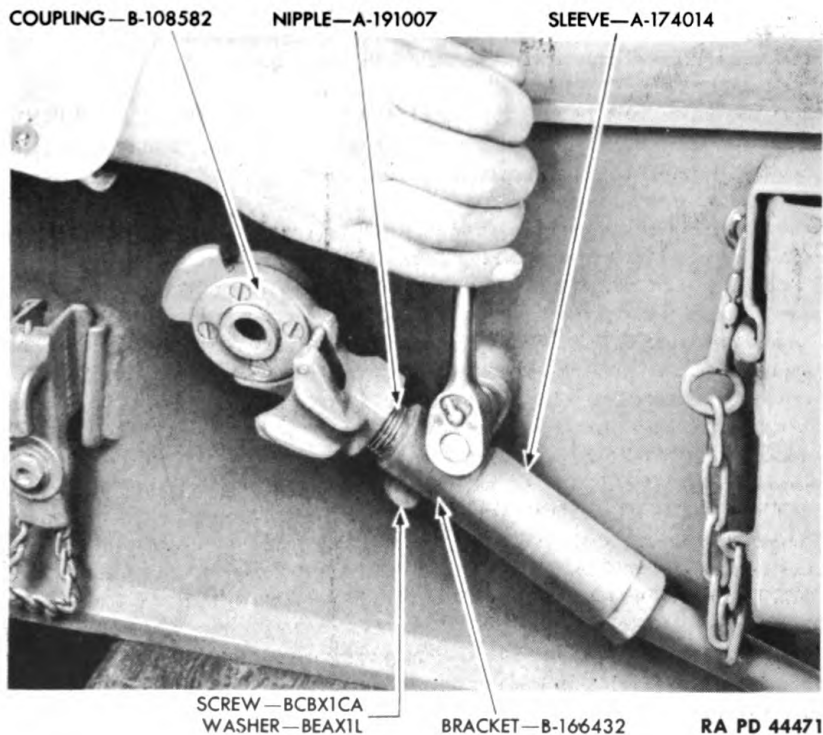

Figure 237—Removing Rear Bracket from Trail
(4) Remove the two screws BCBX1CA and washers BEAX1L from bracket B166432 (fig. 237). Remove bracket B166432, coupling B108582, and pipe and clamp assembly B166434, as a unit.
b. Disassemble Right Trail. Proceed as described in subparagraph a (1), (2), (3), and (4) above, to disassemble right trail.
b. Coat threads of two air line rear bracket screws with **COMPOUND**, rust-preventive, light. Secure bracket to trail with two screws and washers (fig. 237). Air line coupling should be attached. If not, install it in the bracket.